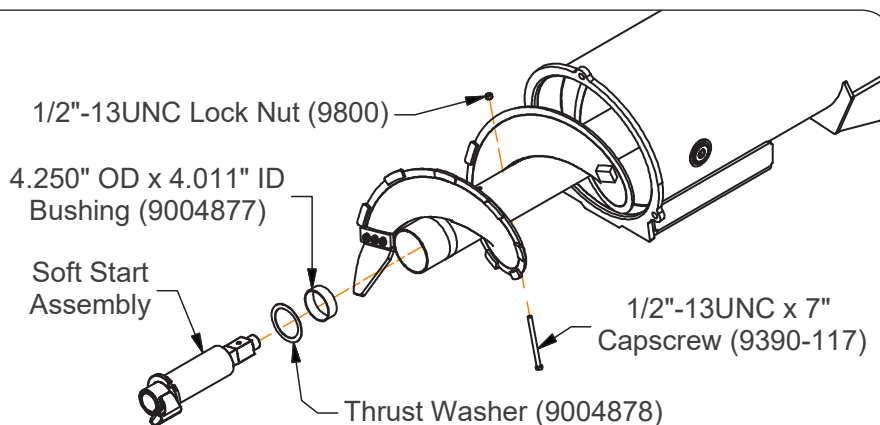

FIG. 4-14
- Remove the 1/2"-13UNC x 7" capscrew (9390-117), 1/2"-13UNC lock nut (9800), soft start assembly, thrust washer (9004878), and bushing (9004877). Discard capscrew only. (FIG. 4-14)